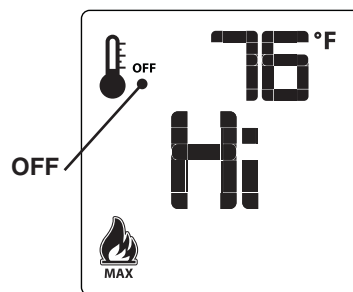

Fig. 43-3 Manual mode
- **Manual Mode (Fig. 43-3):** In this mode, the room temperature is ignored and the fireplace can be turned on indefinitely. The room temperature rise has no effect on this mode. All other functions (fan speed, flame height, secondary burner ON/OFF, and accent light ON/OFF controls) will be manually controllable.